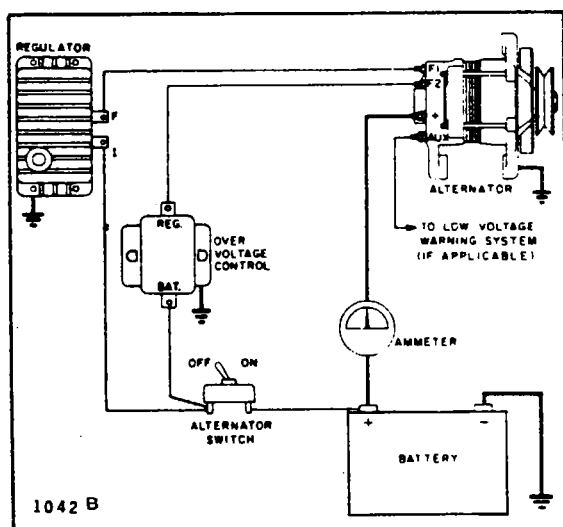

Figure 11-37. Application of Overvoltage Control
c. The relay contacts will remain open until the alternator switch is turned off. Figure 11-37 illustrates the overvoltage control connected in a typical Prestolite insulated field alternator.